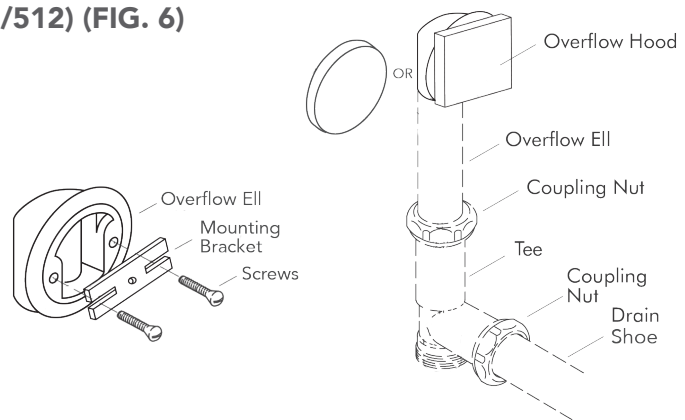

FIG. 6
15. Install overflow plate onto overflow (513/512) (FIG. 6)